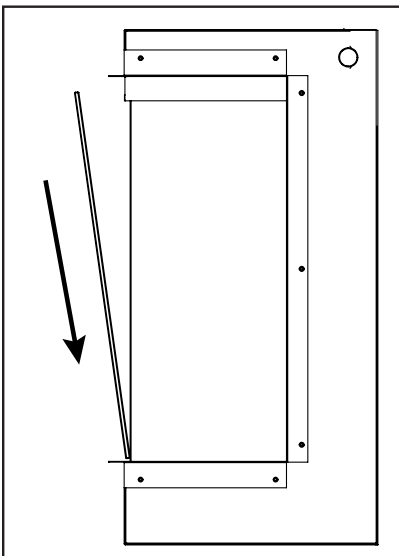

Figure 19: Front Glass - Step 1
1. Insert the front glass at an angle into the bottom channel (see figure 19).